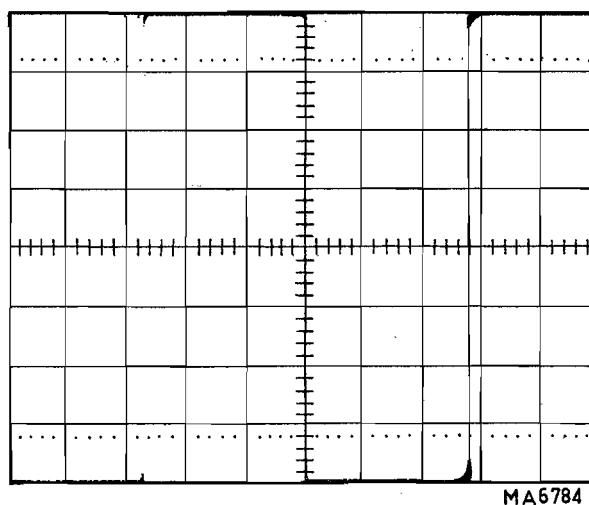

Fig. VIII-11. Square wave pulse with one edge intensified for the purpose of rise time measurement
- Using the YA POSITION control in conjunction with the AMPL switch and AMPL potentiometer, obtain a condition in which the pulse shape begins at the bottom horizontal graticule line and ends at the top graticule line (i.e. the vertical deflection rises through exactly eight horizontal divisions). Make any necessary adjustment to the ILLUM and INTENS controls in order to make the display clear, shown in Fig. VIII-11.